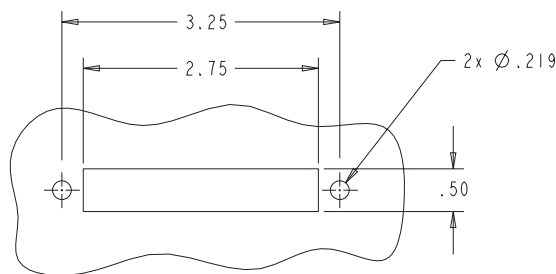

Figure 3. Panel cut-out dimensions for high density cable.
1. Cut a hole in the front panel of the system cabinet through which to pass the high density cable. See Fig. 3 for cut-out dimensions.